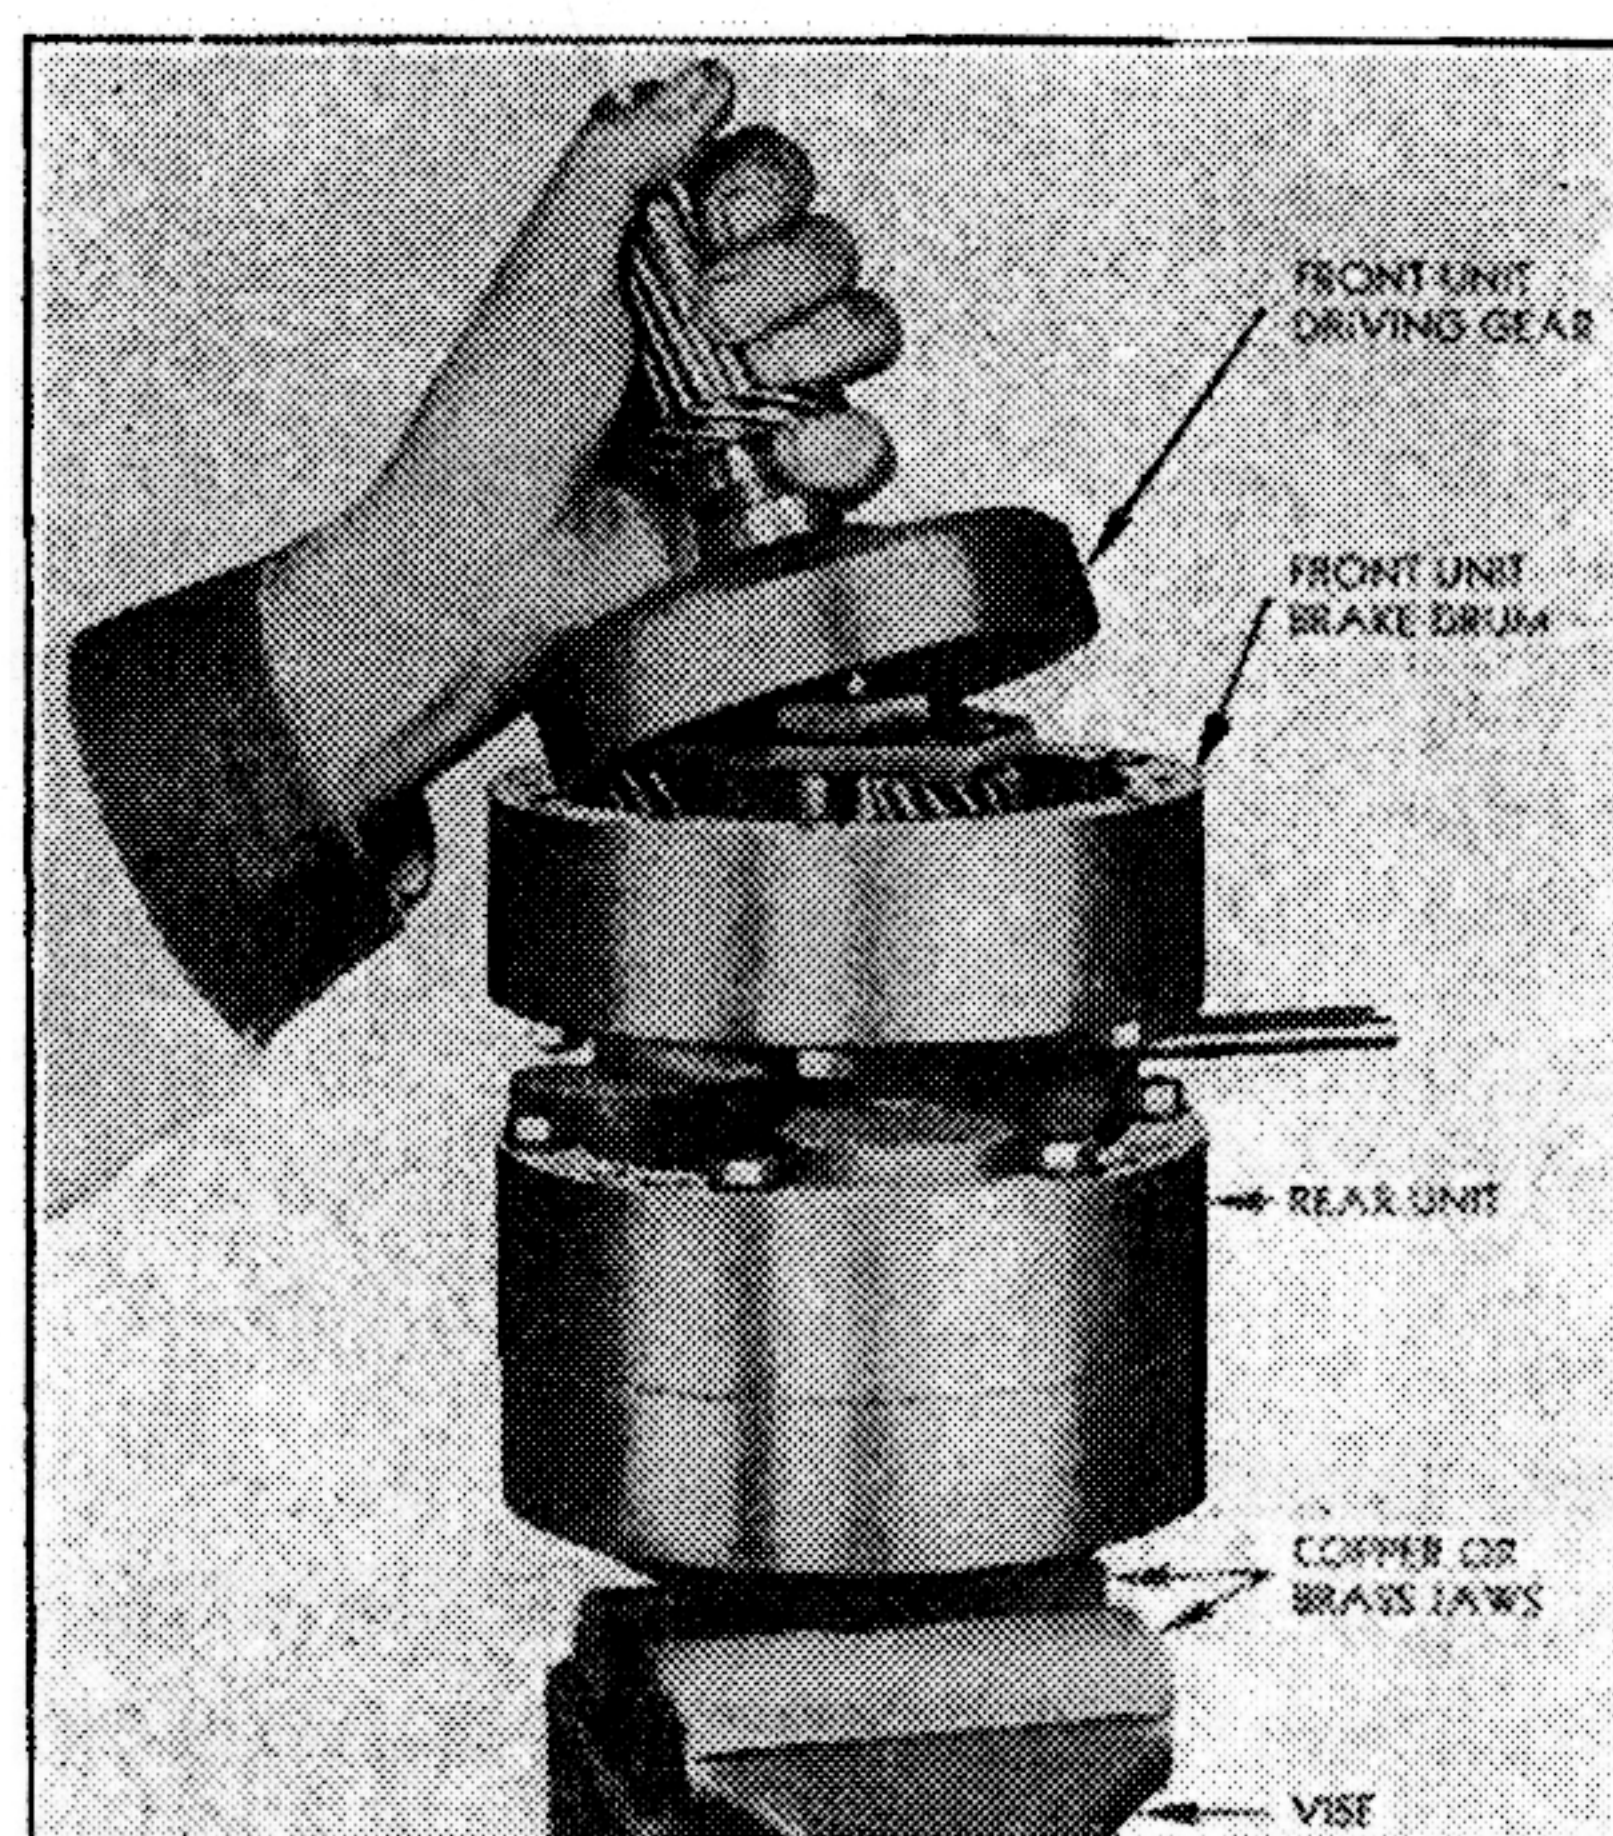

Fig. 26. Holding Units for Disassembly
2. Place unit assembly in a vise and clamp transmission driven shaft firmly, using copper or brass jaws to prevent damage to shaft. See Fig. 26.